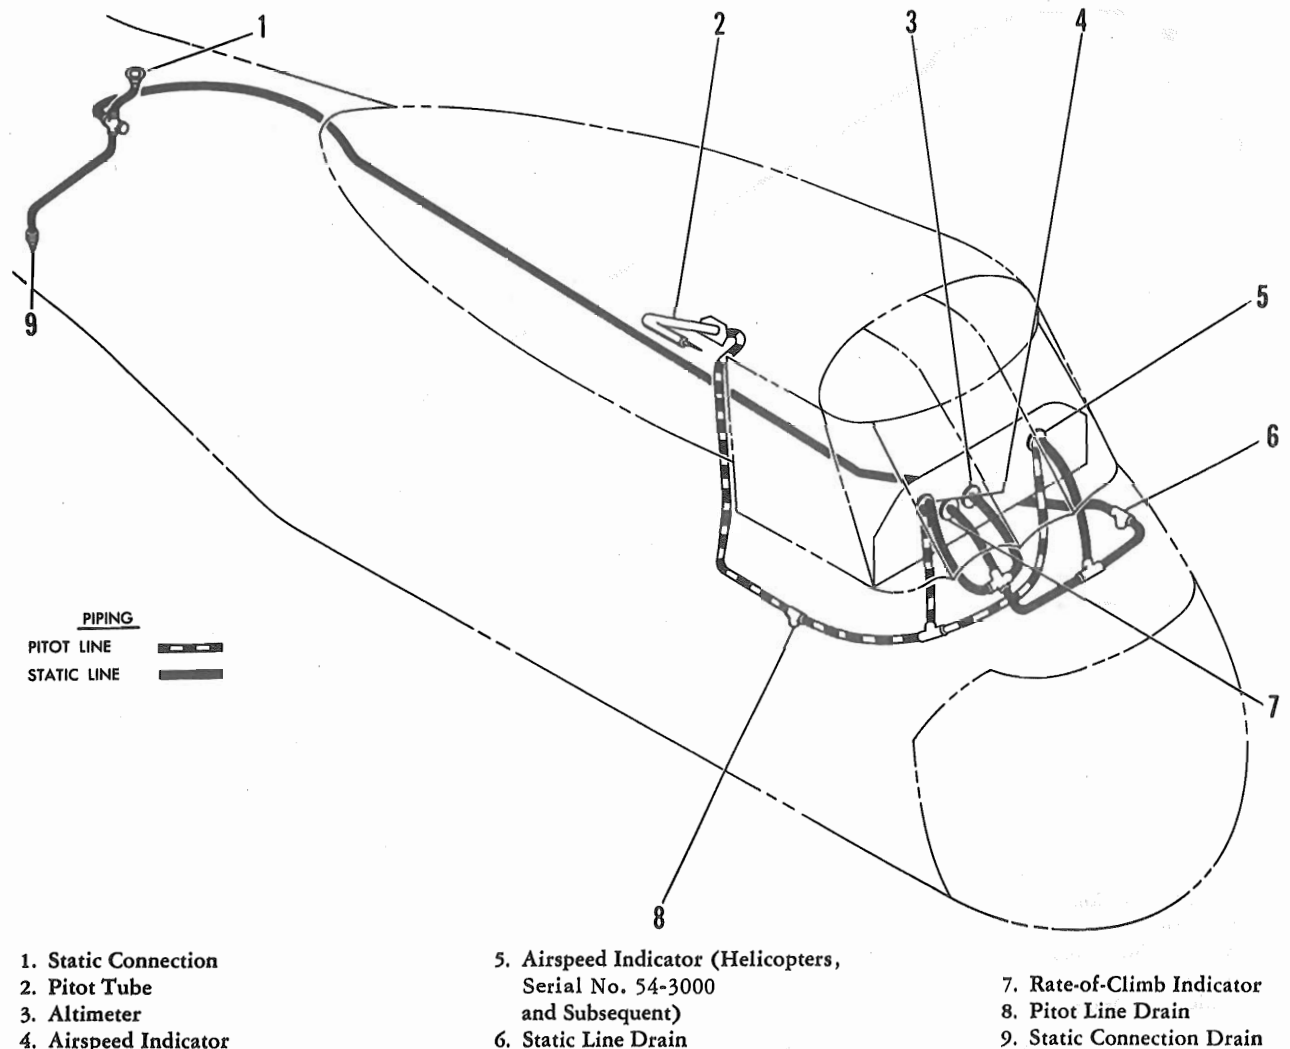
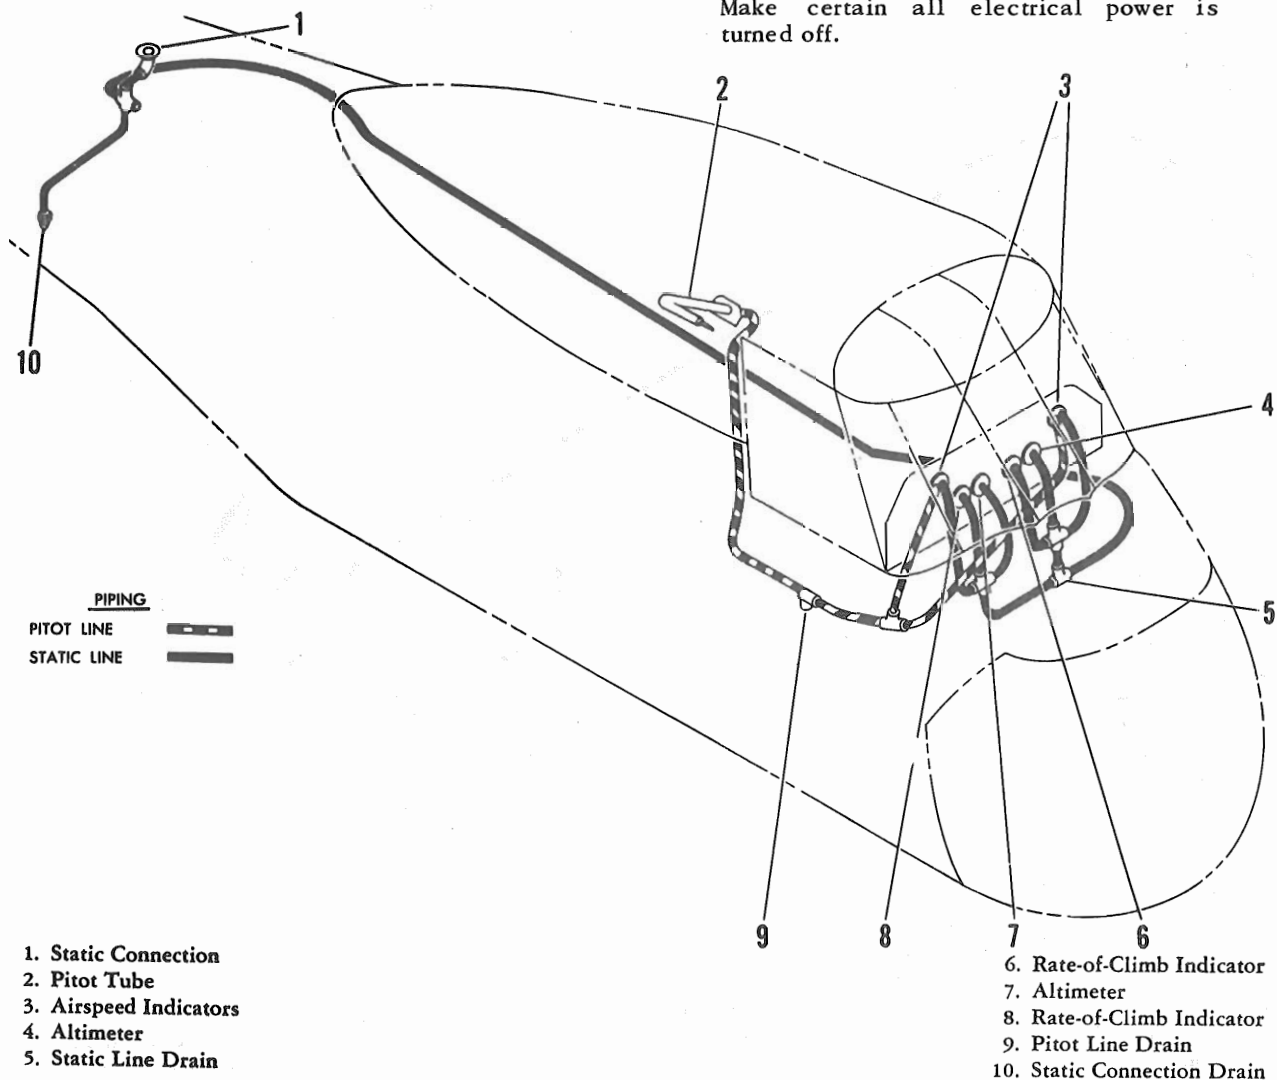

Figure 8-1. Pitot-Static System Diagram - Aircraft Serial No. Prior to 57-1742
Figure 8-2. Pitot-Static System Diagram - Model CH-34C Serial No. 57-1742 and Subsequent
8-2. DESCRIPTION. (See figures 8-1 and 8-2.) The pitot-static system consists of a pitot pressure system and a static pressure system.
8-4. DESCRIPTION. (See figures 8-1 and 8-2.) The pitot pressure system consists of a pitot tube, tubing, and hoses extending to the airspeed indicators. The pitot tube is mounted on the end of a support that extends from a base assembly mounted
8-10. DESCRIPTION. (See figures 8-1 and 8-2.) The static pressure system consists of a static pressure connection, tubing and hoses extending from the connection to the barometric altimeter, airspeed indicator, and rate-of-climb indicator. The static pressure connection consists of a group of seven holes in the skin which open into a threaded flange and gasket riveted to the inner surface of the skin. The pressure connection is located on top of the helicopter above the electronics compartment.
b. Disconnect tubing from static line drain (6, figure 8-1, or 5, figure 8-2) at left side of cabin forward bulkhead and remove drain.
d. Disconnect tubing from tee below static connection (1, figure 8-1, or 1, figure 8-2) at upper right side of electronics compartment.
f. Remove tee and tube from static connection (1, figure 8-1, or 1, figure 8-2).
8-13. MAINTENANCE. Drain off moisture daily which collects in static system at static connection drain (9, figure 8-1, or 10, figure 8-2) mounted on right side of electronics compartment aft bulkhead, and static line drain (6, figure 8-1, or 5, figure 8-2) on left side of cabin forward bulkhead. Check that openings at static connection are free of dirt.